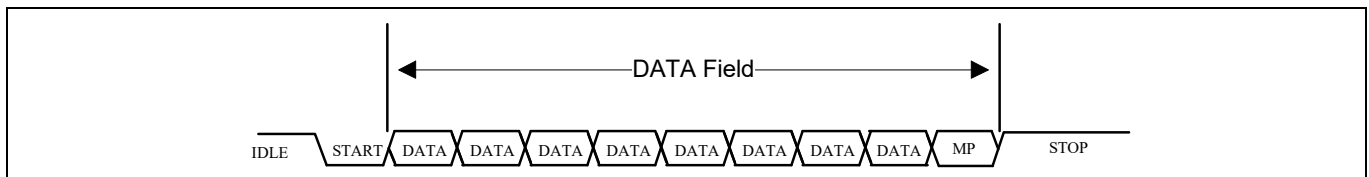

Figure 19-18. UART MP data frame
By default, UART supports a data frame width of eight bits. However, this can be configured to any value in the range of 4 to 9. This does not include start, stop, and parity bits. The number of stop bits can be in the range of 1 to 4. The parity bit can be either enabled or disabled. If enabled, the type of parity can be set to either even parity or odd parity. The option of using the parity bit is available only in the Standard UART and SmartCard UART modes. For IrDA UART mode, the parity bit is automatically disabled. Figure 19-18 depicts the default configuration of the UART interface of the SCB.
- Using 9-bit data field, with the ninth bit as address/data flag (MP bit). When set high, it indicates an address byte; when set low it indicates a data byte. A data frame is illustrated in Figure 19-18.